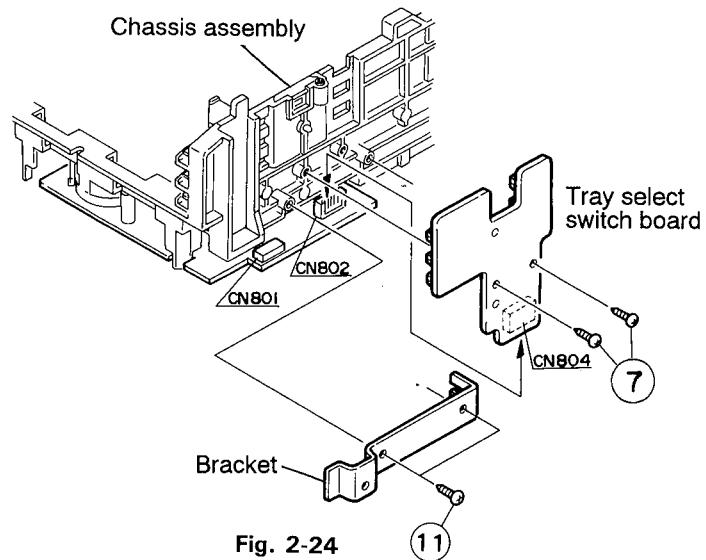

Fig. 2-24
- Remove the two screws ⑥ retaining the actuator motor board (See Fig. 2-24).
- Remove the two screws ⑪ retaining the bracket (See Fig. 2-24).
- Remove the two screws ⑦ retaining the tray select switch board (See Fig. 2-24).